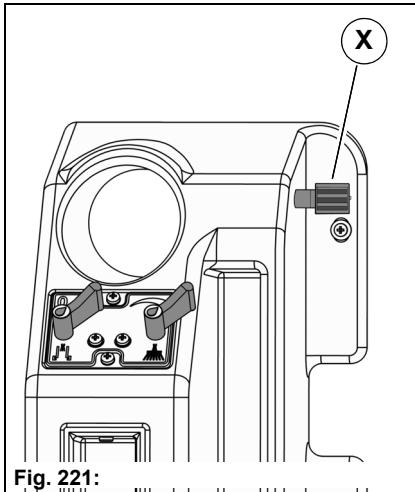

Fig. 221:
2. Raise the front tool carrier and fix it in the upper position with the lowering valve **Fig. 221-X**.
7. Open the lowering valve **Fig. 221-X** again.